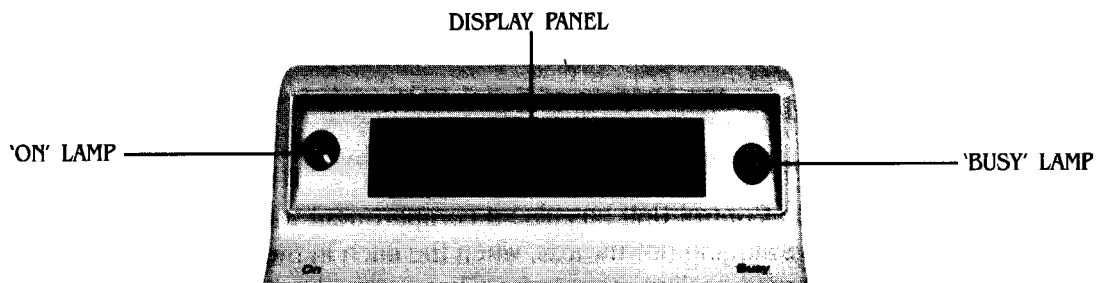

Fig.13 View of Display Section
19. Display section consists of two lamps 'On' and 'Busy' and a display panel which consists of twenty four red coloured seventeen segment alpha numeric characters in two equal rows (Fig. 13). The functions of the lamps and the display panel are explained in paras 25, 26 and 27 of this Chapter.
25. The 'ON' lamp is located at the top left corner of the display section. When the power switch is pushed upwards to the 'ON' position, the Lamp glows 'GREEN' to indicate that the EVM is ready for use (Fig. 13). If no button is operated for 10 - 20 minutes, the CU goes to **power save mode** indicated by flickering of green 'ON' lamp every 5 seconds. The system comes out of this mode with the activation of any button on CU. The unit does not go into power save mode in case of Real Time Clock (RTC) failure.
26. The red 'Busy' Lamp is located at the top right corner of the display section. It glows 'RED' when the 'Ballot' button is pressed by the polling official to enable the voter to cast his / her vote. It goes off when the voter has cast his / her vote (Fig. 13).
27. Display panel displays the data on two rows of total twenty four characters (Fig 13).